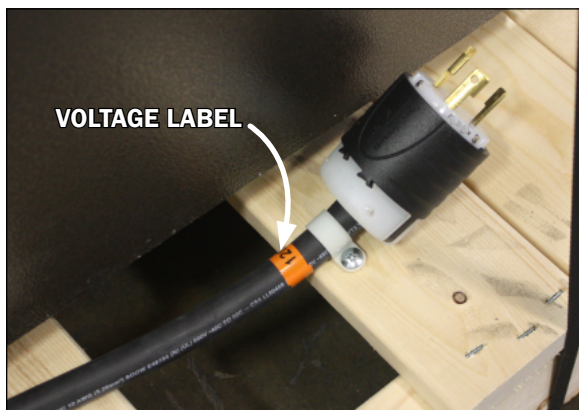

Fig. 9 Main power cord voltage label
1. After the main power cord (Fig. 9) located at the base panel of the case is plugged in and the power switch (Fig. 11) flipped to ON the case should begin normal operations.